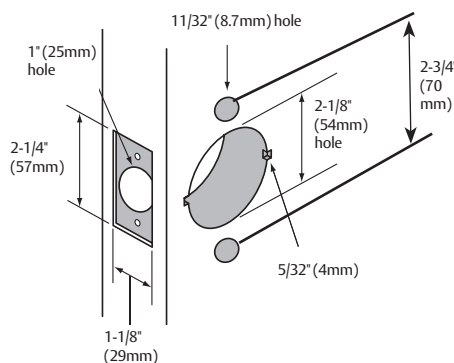

Figure 2
3. Verify the dimensions (Figure 2).